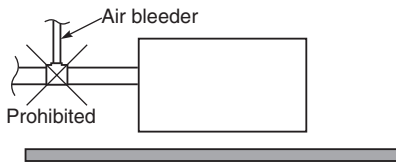

Fig. 1-41
- Do not install an air bleeder as this may cause water to spray from the drain pipe outlet. (Fig. 1-41)